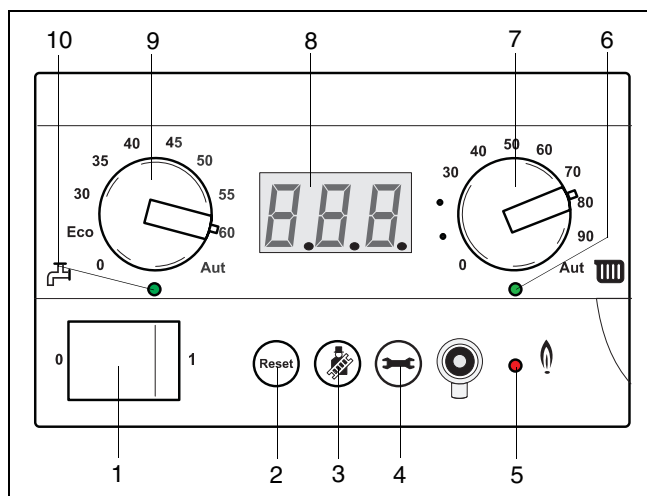

fig. 35 BC10
Mains switch (fig. 35, item 1)
Reset button (fig. 35, item 2)
Chimney sweep button (fig. 35, item 3)
Service Button (fig. 35, item 4)
LED "burner on" (fig. 35, item 5)
Setting the flow temperature (fig. 35, item 7)
The knob with the radiator symbol (fig. 35, item 7) allows the installer to set the maximum flow temperature (see table 4). When the boiler is in operation for central heating then the LED "CH operation" (see fig. 35, item 6) is lit.
Setting the domestic hot water temperature (fig. 35, item 9)
Turn the knob with the tap symbol (fig. 35, item 9) to the desired temperature for your domestic hot water (see table 5).
When the boiler is in operation for domestic hot water, the LED "DHW operation" is on (see fig. 35, item 10).